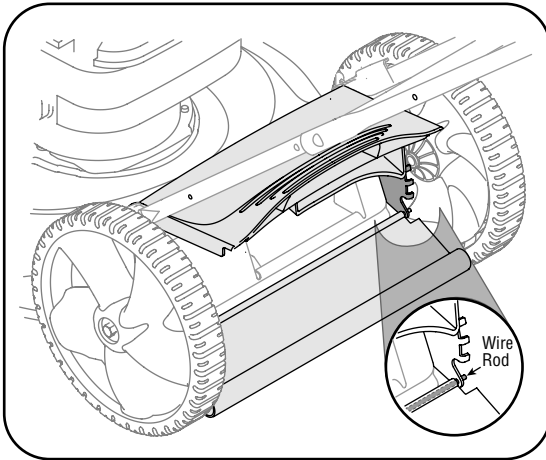

Figure 5
1. To remove rear flap, cut off the flat end of the wire rod which secures it to the deck. See Figure 5.